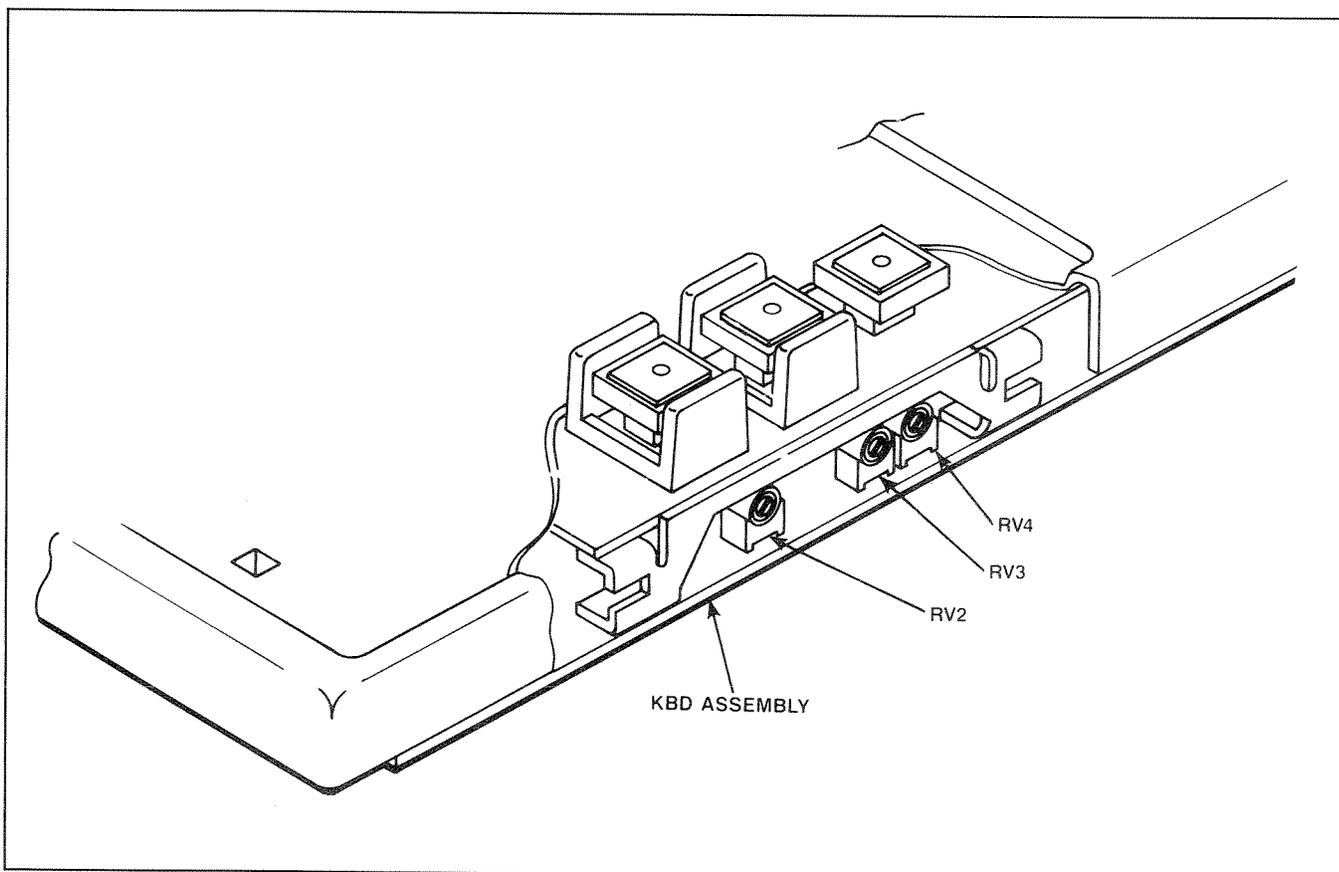

Figure 6-27. KBD Adjustments
STEP 5 Remove the top side cosmetic cover. The EOT adjustment screws are visible from the side of the KBD. (See Figure 6-27.)
- STEP 5** Adjust RV2 so that the tape does not move when the MVC is touched with the free allowance of the mechanical return spring. Refer to Figure 6-27 for the location of RV2 on the KBD.